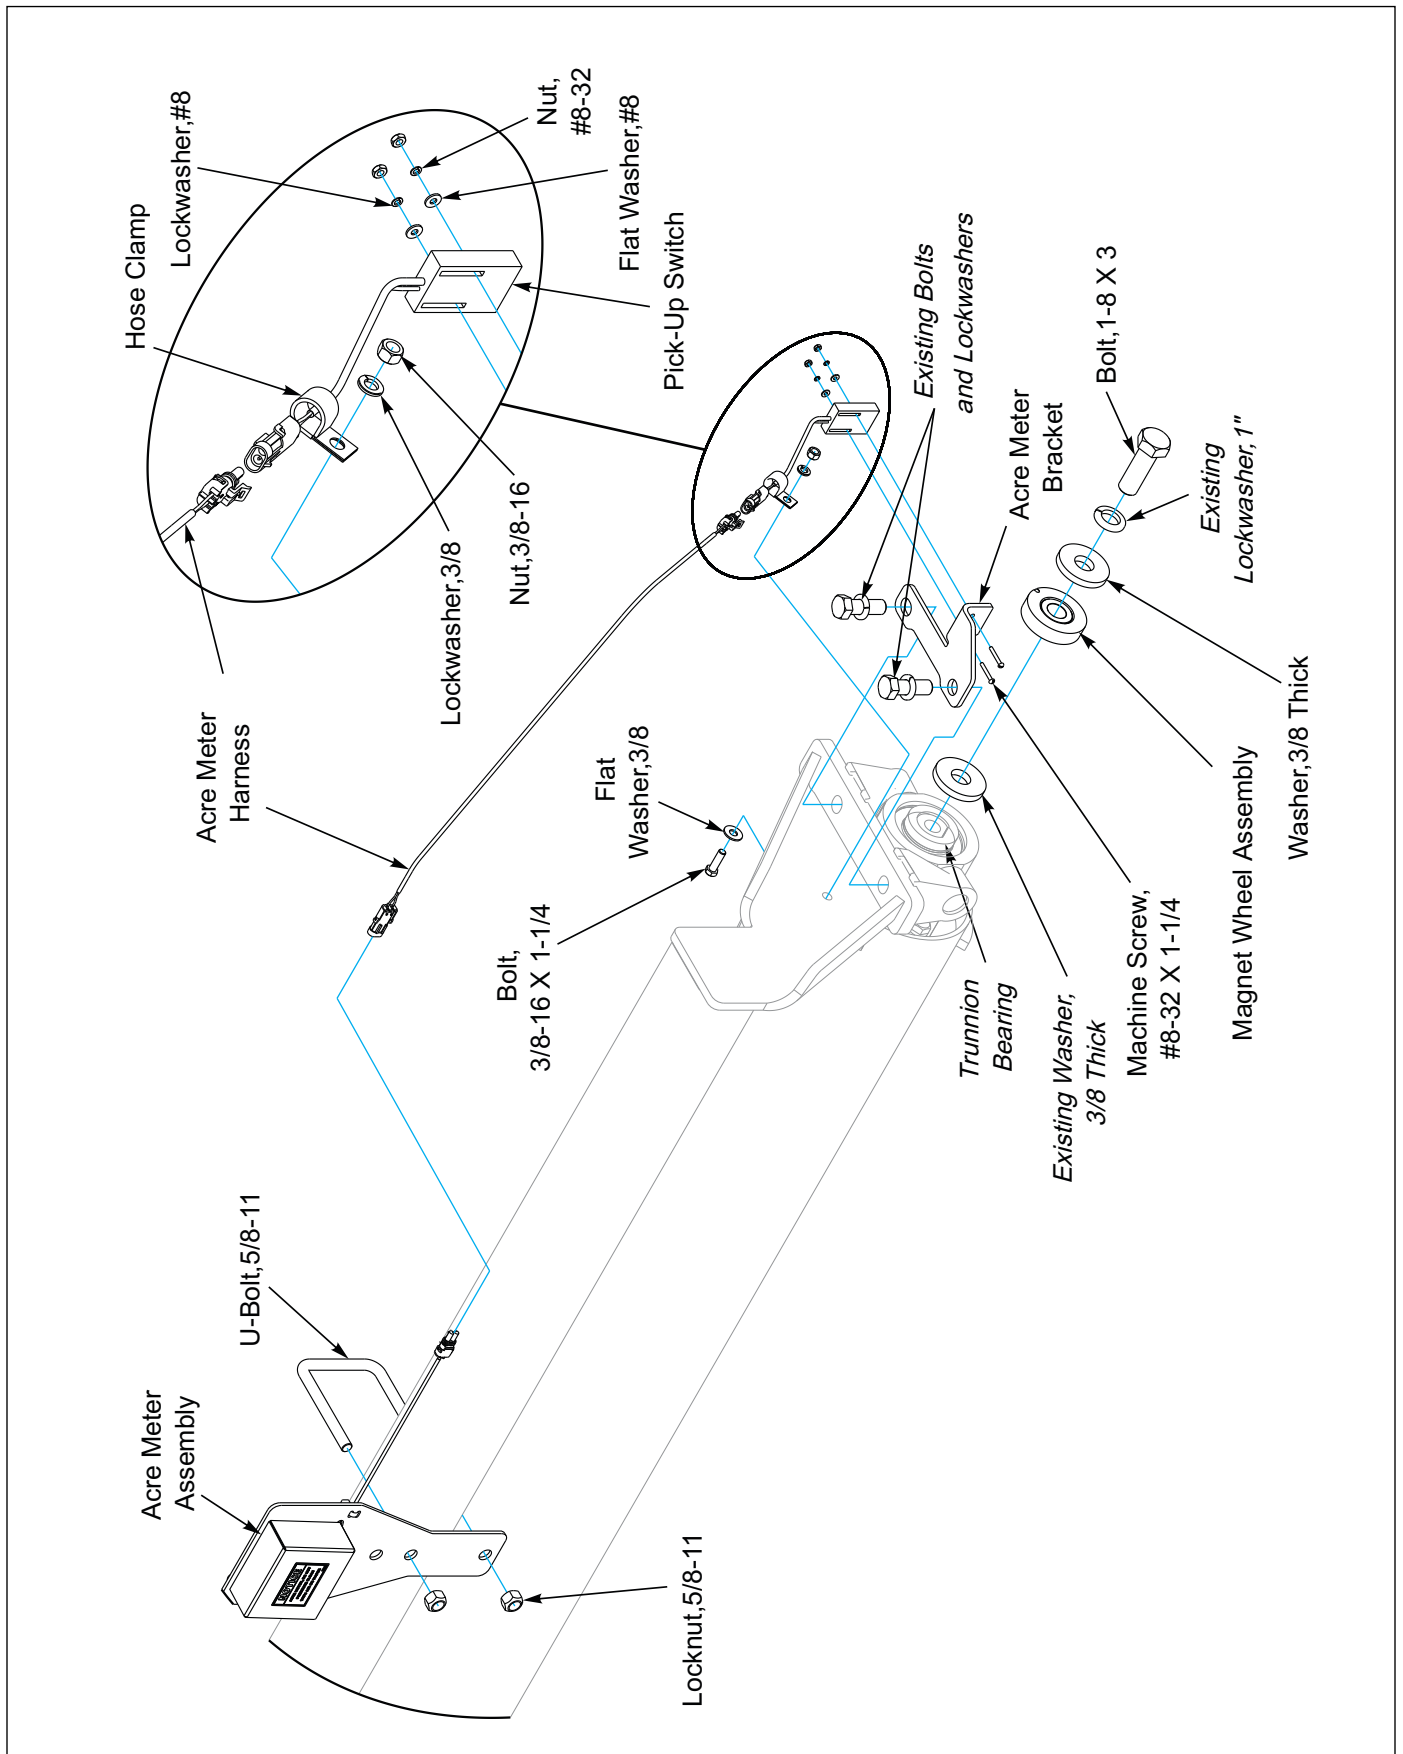

Figure 2-27: Acre Meter Installation
1. Attach the Acre Meter Assembly to the front frame tube using 5/8-11 U-Bolt and Locknuts. See **Figure 2-27**.